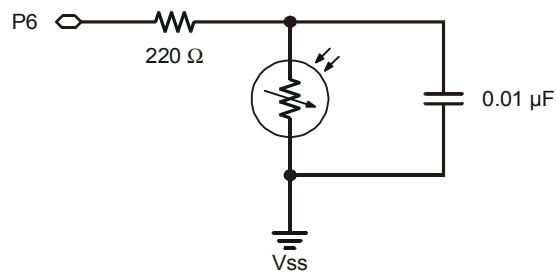

**Figure 6-10**
Think of a capacitor in the circuit shown in Figure 6-10 as a tiny rechargeable battery. When P6 sends the high signal, it essentially charges this capacitor-battery by applying 5 V to it. After a few ms, the capacitor charges up to almost 5 V. If the BASIC Stamp program then changes the I/O pin so that it just quietly listens, the capacitor loses its charge through the photoresistor. As the capacitor loses its charge through the photoresistor, its voltage decays, getting lower and lower as it loses charge. The amount of time it takes for the voltage that **IN6** senses to drop below 1.4 V depends on how strongly the photoresistor “resists” the flow of electric current supplied by the capacitor. If the photoresistor has a large resistance value due to very dim lighting conditions, the capacitor takes longer to discharge. If the photoresistor has a small resistance value because the light incident on its surface is very bright, it will not resist current very strongly, and the capacitor will lose its charge very rapidly.
The photoresistor and capacitor shown in Figure 6-10 are connected in parallel. For two components to be connected in parallel, each of their leads must be connected to common terminals (also called nodes). The photoresistor and the capacitor each have one lead connected to Vss. They also each have one lead connected to the same 220 Ω resistor lead. □
**RCTIME.** The **RCTIME** command is designed to measure RC decay time on a circuit like the one in Figure 6-10. Here is the syntax for the **RCTIME** command:
The **Pin** argument is the number of the I/O pin that you want to measure. For example, if you want to measure P6, the **Pin** argument should be 6. The **State** argument can either be 1 or 0. It should be 1 if the voltage across the capacitor starts above 1.4 V and decays downward. It should be 0 if the voltage across the capacitor starts below 1.4 V and grows upward. For the circuit in Figure 6-10, the voltage across the capacitor will start close to 5 V and decay to 1.4 V, so the **State** argument should be 1. The **Duration** argument has to be a variable that stores the time measurement, which is in 2  $\mu$ s units. In this next example program, we'll measure the RC decay time on the photoresistor circuit connected to P6, which is the photoresistor on the Boe-Bot's left.